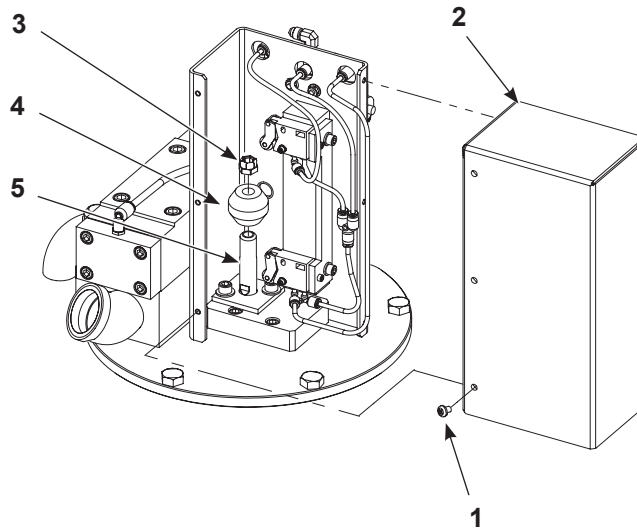
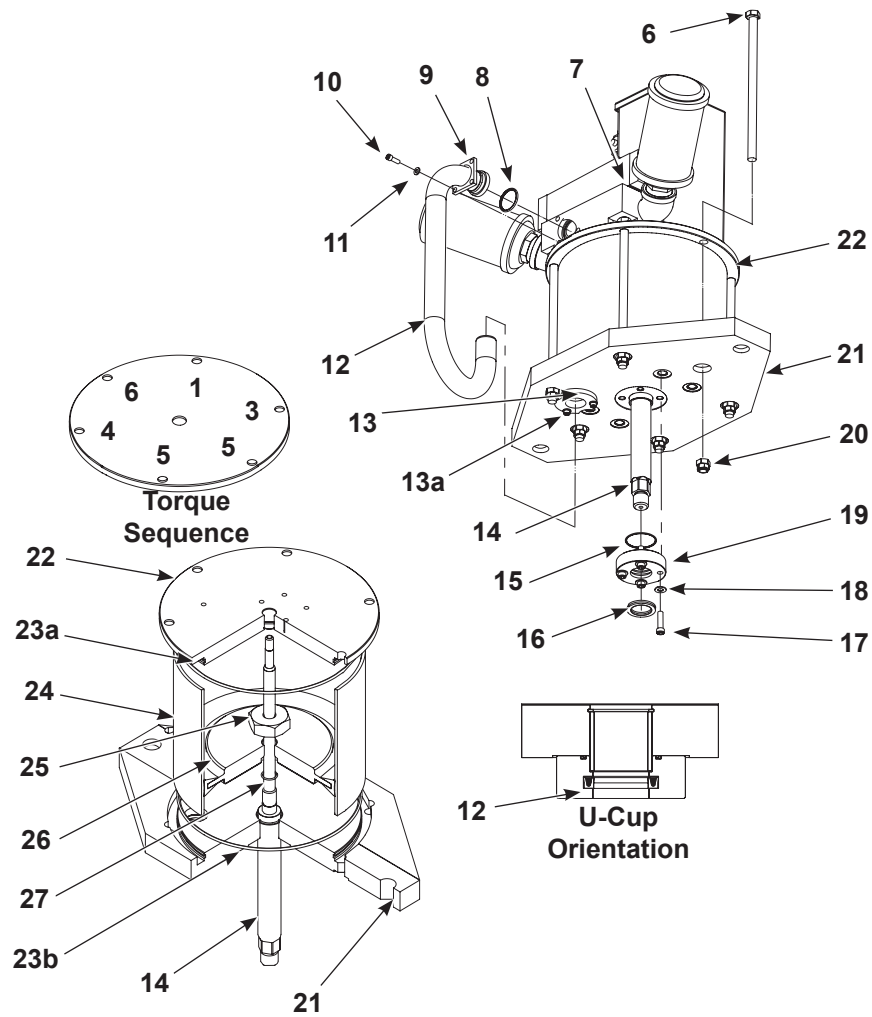

Figure 8-6 Repair Piston Assembly (1 of 2)
Figure 8-7 Repair Piston Assembly (2 of 2)
See Figure 8-6 and Figure 8-7.
1. See Figure 8-6. Remove the screws (1) securing the cover (2).
2. Place a wrench on the flats of the piston rod (5).
3. Remove the nut (3) securing the trip-bar (4) to the piston rod (5).
4. See Figure 8-7. Remove the screws (10) and washers (11) securing the upper supply tube retainer (9) to the air manifold (7).
6. Remove the supply tube (12) from the air manifold (7) and base plate (21). Remove and discard the O-ring (8) from the air manifold (7).
7. Remove the screws (17) and washers (18) securing the piston rod retainer (19) to the base plate (21). Remove the O-ring (15) and U-Cup (16).
8. Discard the O-ring (15) and U-Cup (16).
9. Remove the screws (6) and nuts (20) securing the air motor cap (22) to the base plate (21). Use a wrench on the flats of the two screws (6) below the air manifold (7) to remove the nuts (20).
10. Remove the air motor cap (22) and set it on a flat surface. Remove and discard the O-ring (23a).
11. Remove the air cylinder and O-ring (23b) from the base plate (21). Discard the O-ring. Remove the piston assembly from air cylinder.
12. Remove the retainer nut (25) securing the piston (26) to the piston rod (14). Remove the O-ring (27) from the piston rod (14) and discard.
- inner surface of the air cylinder (24)
26. Refer to Figure 8-6. Install the trip-bar (4) to the piston rod (5) using the nut (3). Tighten the nut securely.
27. Install the cover (2) to the air motor using the screws (1). Tighten the screws securely.